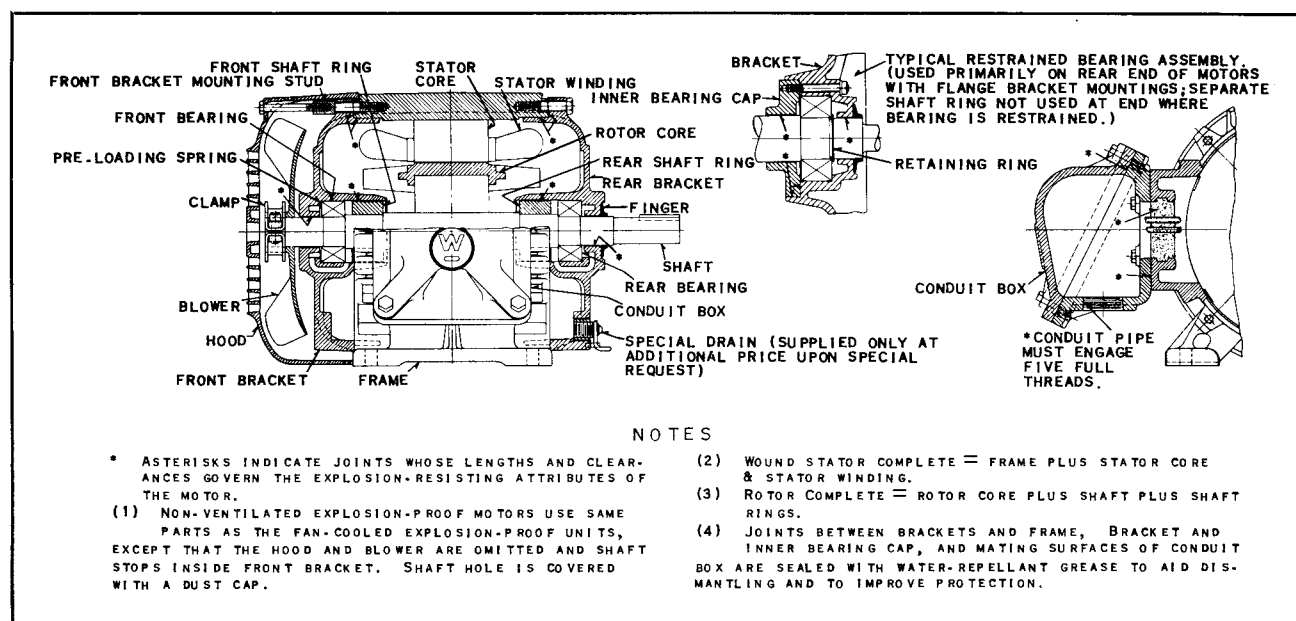

FIG. 1. Arrangement of Parts, Totally Enclosed Fan-Cooled Explosion-Proof Type "A" Life-Line Motors
The presence of the Underwriters' label on the motor is certification that it has been built to rigidly controlled standards to assure utmost safety of operation in hazardous locations. If necessary to dismantle a labeled motor for servicing in the field, upon reassembly it is imperative that the factory assembly be duplicated in all respects. Und. label can only be mounted at point of manufacture. See Fig. 1.
**Conduit box.** If the conduit box is desired on the opposite side of the motor, remove the brackets and rotor, reverse the frame, and reassemble. Note precautions under Fig. 1.
Renewal Parts information may be obtained from the nearest Westinghouse Sales Office. Be sure to name the part or parts required (see Fig. 1) and give the complete nameplate reading on the motor for positive identification.